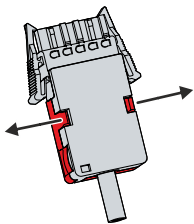

Fig. 22: C6640_Disassembly of strain relief housing
1. Use your fingers to bend the latching lugs on the lower part slightly outwards (see Fig. 22).